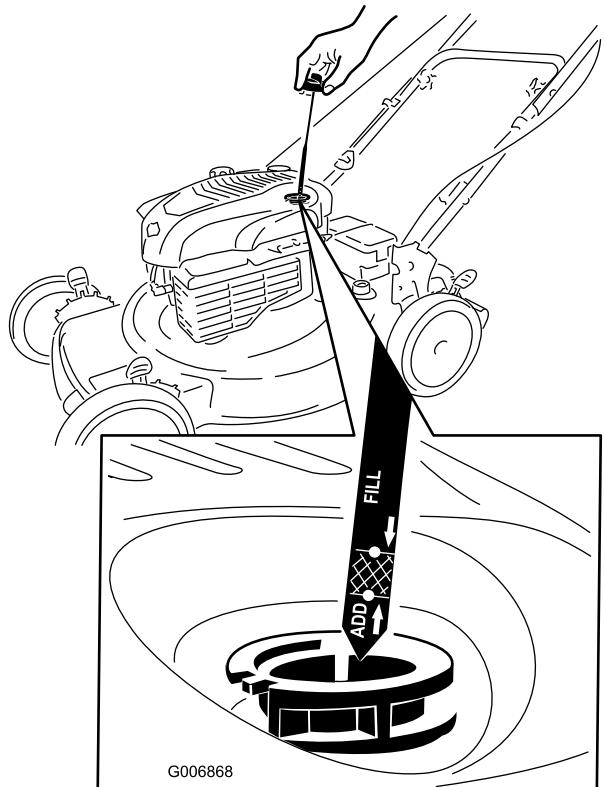

Figure 6
1. Remove the dipstick (Figure 6).
2. Slowly pour oil into the oil fill tube until the oil level reaches the **Full** line on the dipstick (Figure 6). **Do not overfill.** (Max. fill: 20 oz. (0.59 l), type: SAE 30